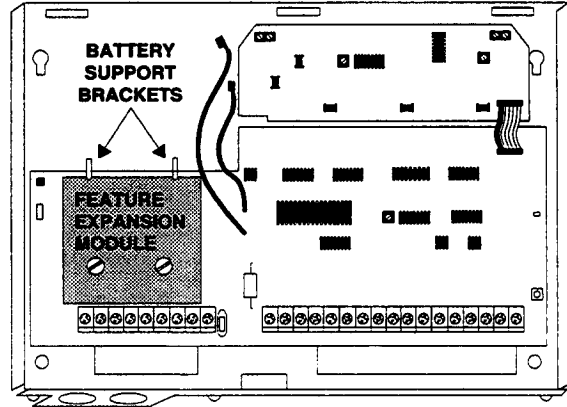

Figure 6. Installing a Feature Expansion Module
- 1) Align the two top notches on the module with the battery support brackets and secure the module by installing the two screws included (see Figure 6).